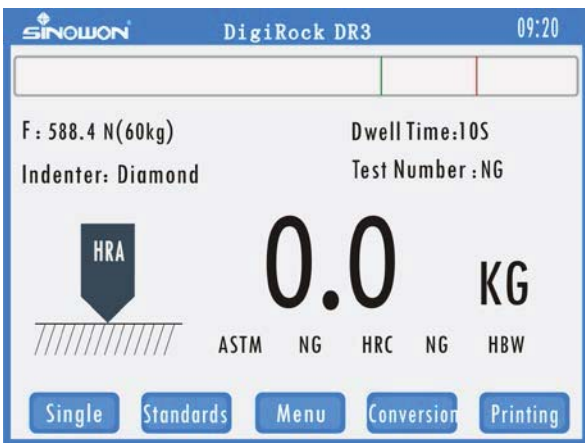

Fig 4-2 Standard test Mode (Single)
- **Single/Group:** Standard test mode (Single) and group test mode (batch mode) switch. When show single, enter standard test mode, test number show NG; click single, it will show average, enter batch mode, test number show 00. See below pictures. ( Fig 4-2 )
Shown as Fig 4-2, HRC, HBW below the test result represent the conversion value under the